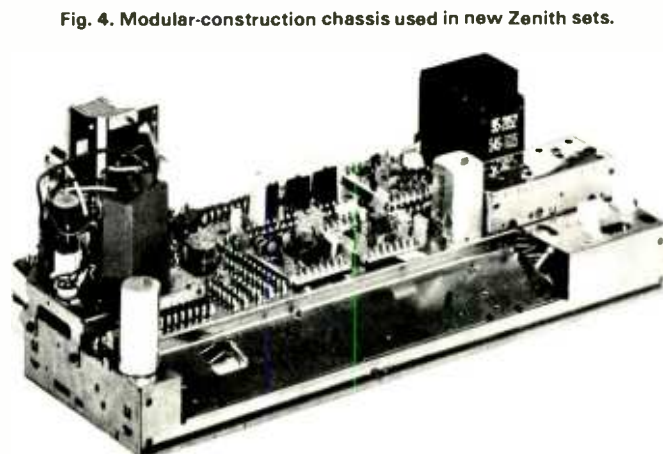

Fig. 4. Modular-construction chassis used in new Zenith sets.
*Zenith* has put several of its Dura-Modules into its two major new color chassis for 1971. The all-transistor 40BC50 and the mostly transistor 4B25C19 both have several of the computer-designed plug-in boards. Two of the modules were shown in Fig. 1 and the chassis they fit into is in Fig. 4.